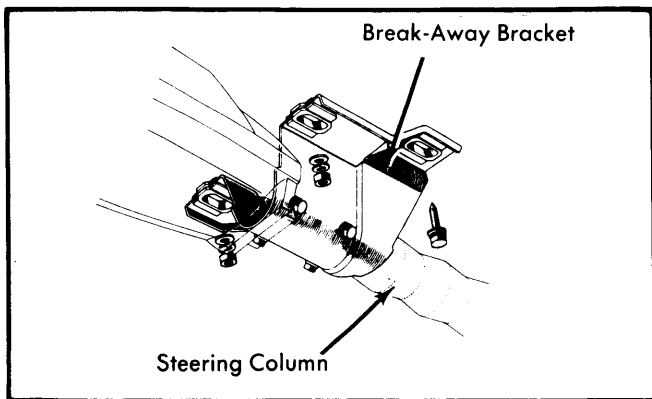

Fig. 2 Relative Position of Break-Away Bracket and Hardware
2) Remove steering wheel and turn signal switch. See *Steering Wheel and Column Switch in STEERING Section*. From inside passenger compartment, remove bolts mounting hole cover to firewall. Remove nuts and bolts mounting the break-away bracket (Fig. 2) then withdraw steering column assembly into passenger compartment and free from vehicle.